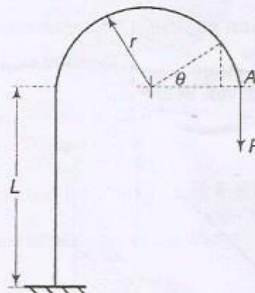

Figure 2
12. (a) (i) For the structure shown in Figure 2, write down expressions for strain energy due to bending, torsion, shear and axial load.